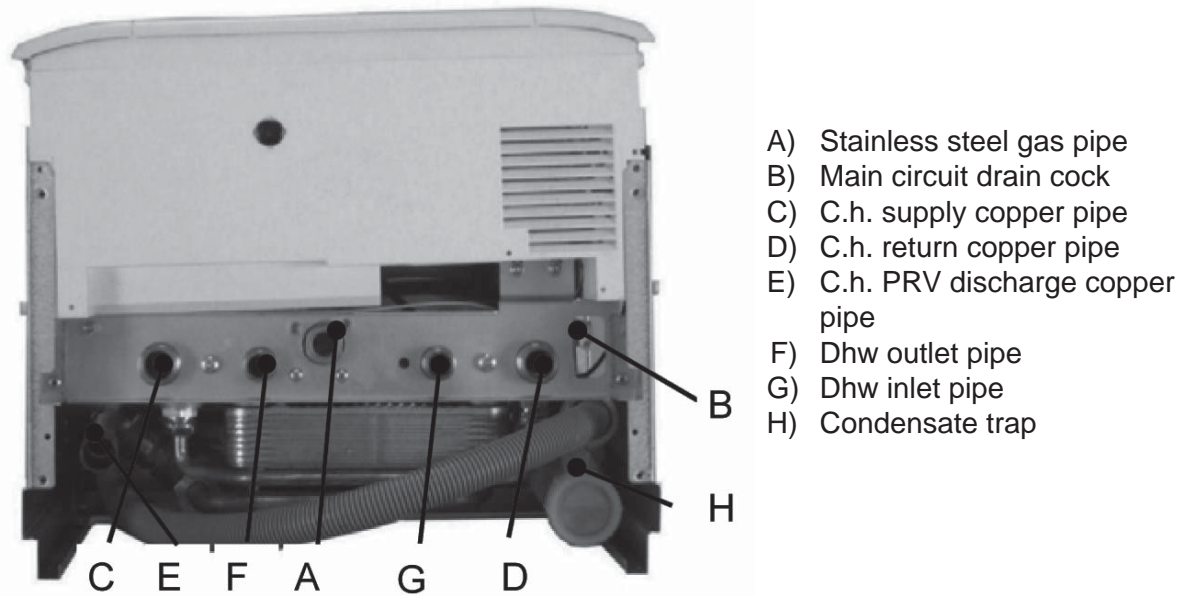

Figure 10.1
copper pipe (C,D in figure 10.1), 2 - 1/2" (F,G in figure 10.1) located in a plastic bag in the boiler package.
- Remove the protective caps off boiler connections (Figure 10.1).
- Attach the supplied components to the boiler connections (see Figures 10.1). Be sure to use the proper gaskets for the pipe connections.